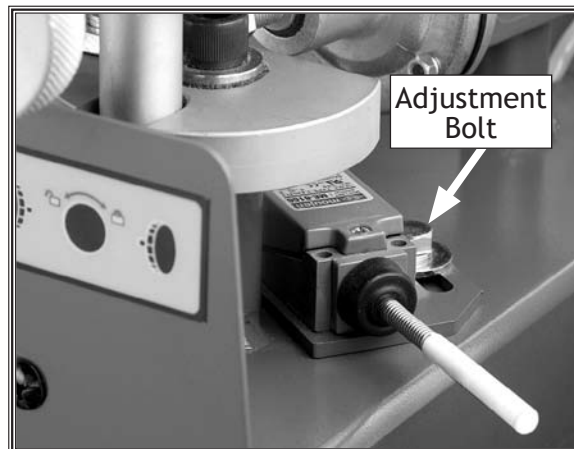

Figure 48. Tracking safety switch adjustment bolt.
Belt tracking safety switches are placed on both sides of the belt to act as emergency machine stops if the belt travels too far to one side during oscillation. See **Figure 48**.
5. Loosen the adjustment bolt shown in **Figure 48**, and move the switch so the belt and the ceramic rod have approximately $\frac{1}{2}$ " clearance from each other.